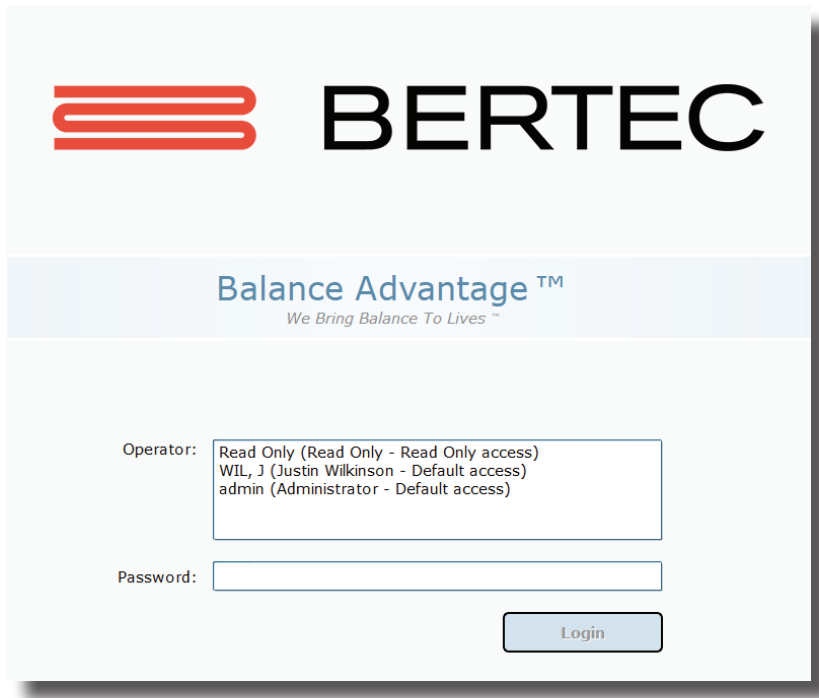

Figure 5: Software Login Screen.
1. Open Bertec® Balance Advantage®. Arrive at the login screen, shown in Figure 5.